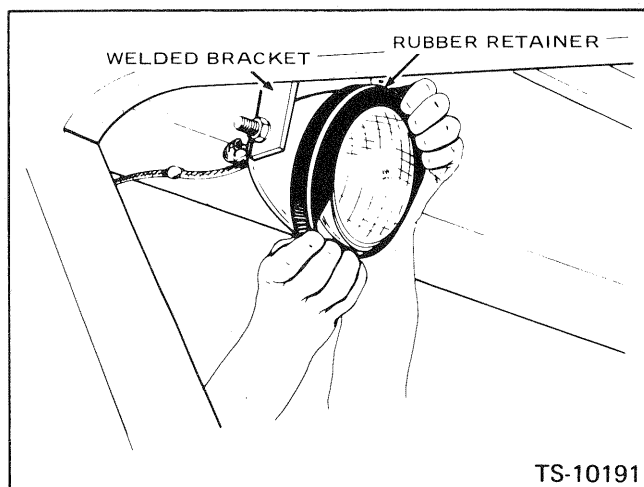

Fig. 14-1 Lamp Replacement
If it is necessary to replace the floodlamps, depress the lamp and spread the lip of the rubber retainer outward, forcing the lamp out as shown in Fig. 14-1 and disconnect the terminals. Reconnect the terminal on the lamp and reinstall the retainer.
- a. Attach one end of one jumper cable to the negative terminal of the booster battery (identified by black colour "—", "N", or "NEG" on the battery case, post, or clamp) as shown in Fig. 14-1. Attach the other end of the same cable to the negative terminal of the discharged battery.